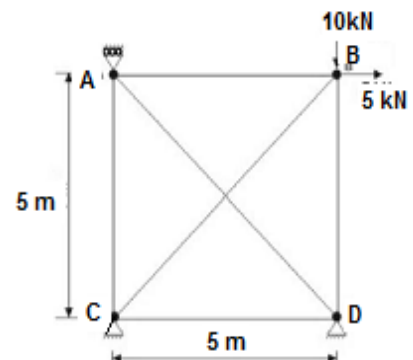

Figure-8
- (b) Determine the joint displacements of the truss shown in **figure-8** by member stiffness method. Assume that all members have the same axial rigidity $AE = \text{constant}$. **07**